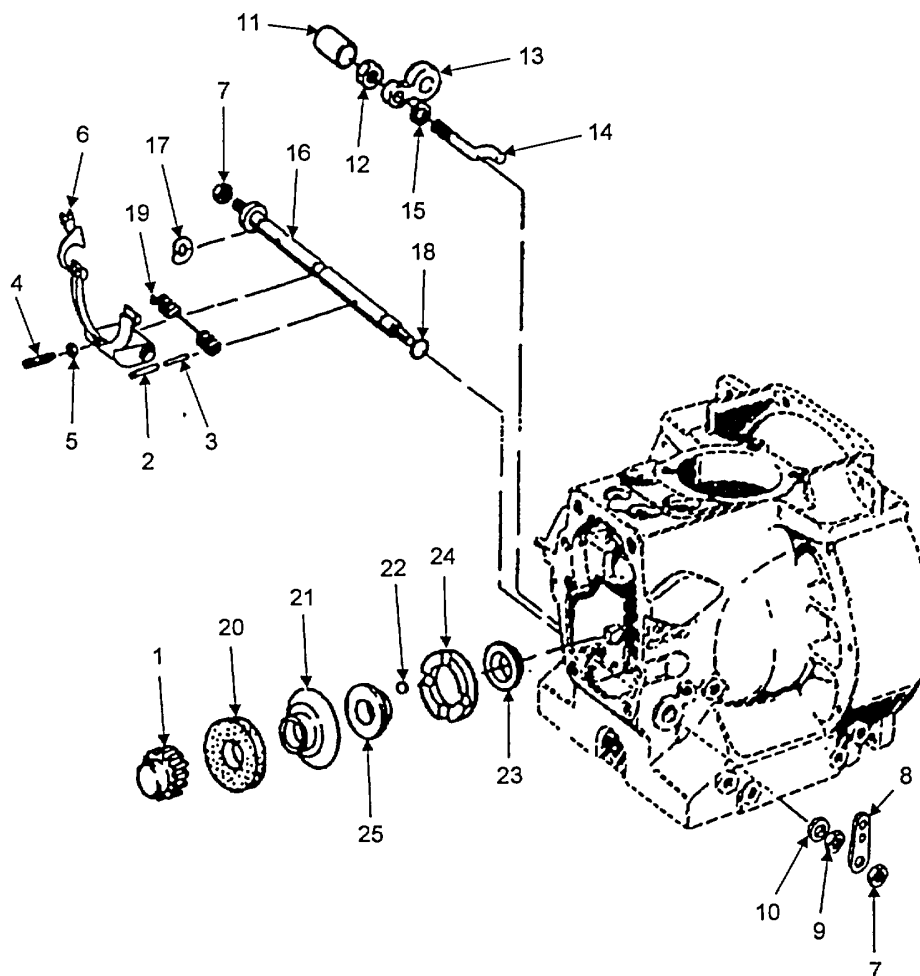

FIGURE 5-49. GOVERNOR
- a. Remove gearwheel (Figure 5-49, Item 1) from crankshaft.
- b. Remove pins (2 and 3) from shaft (16)
- c. Remove threaded pin (4) and hex nut (5) from governor lever (6).
- d. Remove two hex nuts (7) and lever (8).
- e. Remove hex nut (9) and friction disc (10)
- f. Press out shaft (16) from crankcase.
- g. Remove capsule (11), hex nut (12), plate (13) and eccentric pin (14). Discard preformed packing (15).
- h. Remove spring washer (17) and discard two preformed packing (18).
- i. Remove governor lever (6) and governor spring (19) from crankcase.
- j. Pull sliding disc (20) and ball shell (21) from crankshaft.
- a. If any of the four balls (Figure 5-49, Item 22) were removed during disassembly, apply grease to four balls (22) and install balls in ball hub (24)
**Ball shell (21) must slide easily over the crankshaft. Damage to crankshaft and governor could result from improper fitting of governor parts.**
- b. Slide ball shell (21) and sliding disc (20) onto crankshaft.
- c. Lubricate preformed packing (15) with lubricating oil and install in preformed packing groove on eccentric pin (14).
- d. Install eccentric pin (14), plate (13), hex nut (12) and capsule (11) into crankcase.
- e. Mount governor spring (19) on governor lever (6) and install both parts into crankcase.
- f. Lubricate two preformed packings (18) with lubricating oil and install in preformed packing grooves on shaft (16).
- g. Slide spring washer (17) on shaft (16) and install into crankcase.